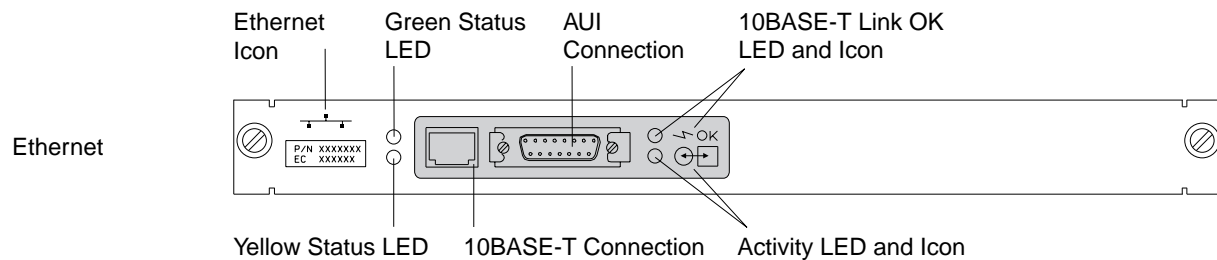

Figure 2-10. Ethernet Attachment Module
- c. ____ Plug wrap plug **C** (PN 70X8670) in the AUI connector of the Ethernet module (refer to Figure 2-10 on page 2-9).